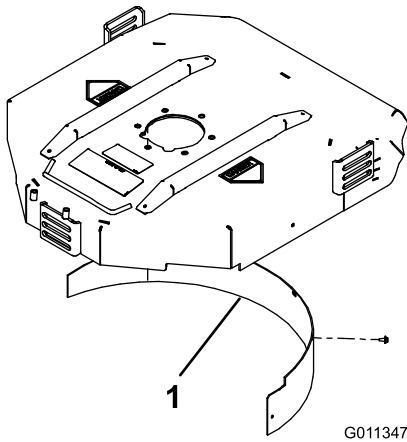

Figure 19
2. Install the mulching baffle in the rear opening and secure it with 5 flange head bolts (Figure 19).